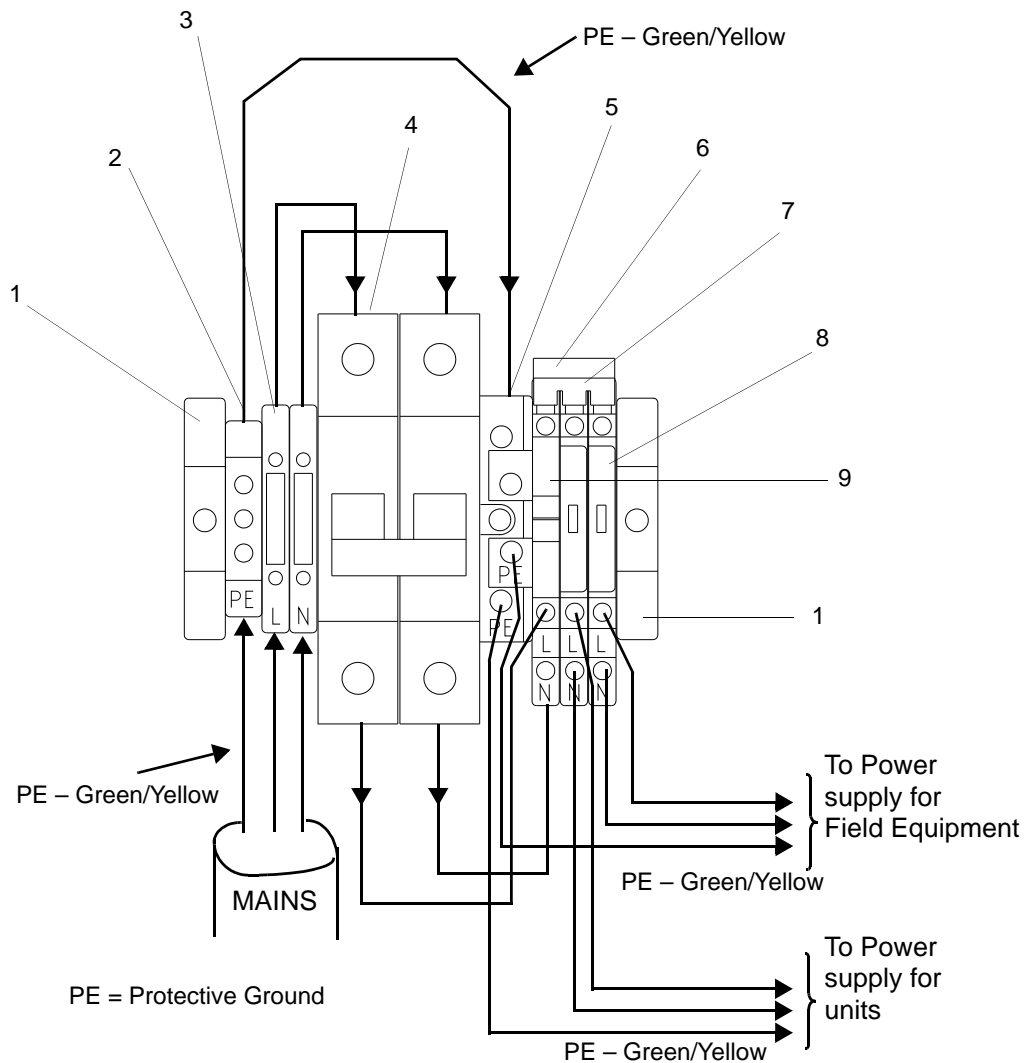

Figure 2.33: Installation of Mains Breaker Assembly
1. Mount the mains breaker unit components onto the DIN-rail, from left to right, close to the incoming power supply, in the order given below (see Figure 2.33 on page 131).
- a. A DIN-rail end-stop (1).
- b. The terminal for the incoming protective ground (2).
- c. The two terminals for the incoming Live and Neutral mains power (3). These terminals are equipped with built-in jumpers which, if necessary, can be opened to provide complete mains input power isolation.
- d. The miniature mains breaker unit (4).
- e. The protective ground distribution terminal (5).
- f. The mains distribution terminal block (6), depending on the required configuration.
- g. A DIN-rail end-stop (1).
2. Connect the incoming mains, the protective ground terminals, the mains breaker and the distribution terminals as shown in Figure 2.33 on page 131.
3. Install the two required links (7), fuse holders (8) and jumpers (9) onto the distribution terminals. Fit the required fuses into the fuse holders, (glass tube type, 5 x 20 mm (0.2 x 0.8 in)).